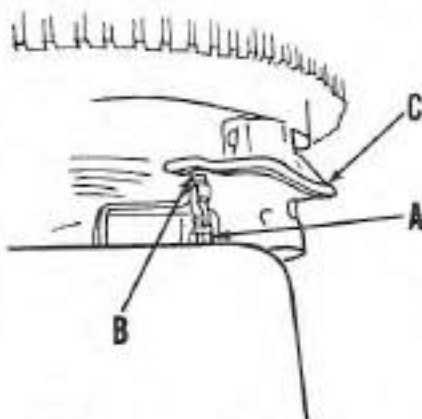
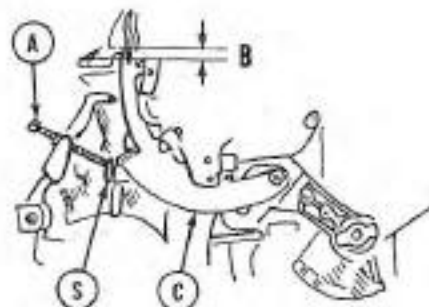
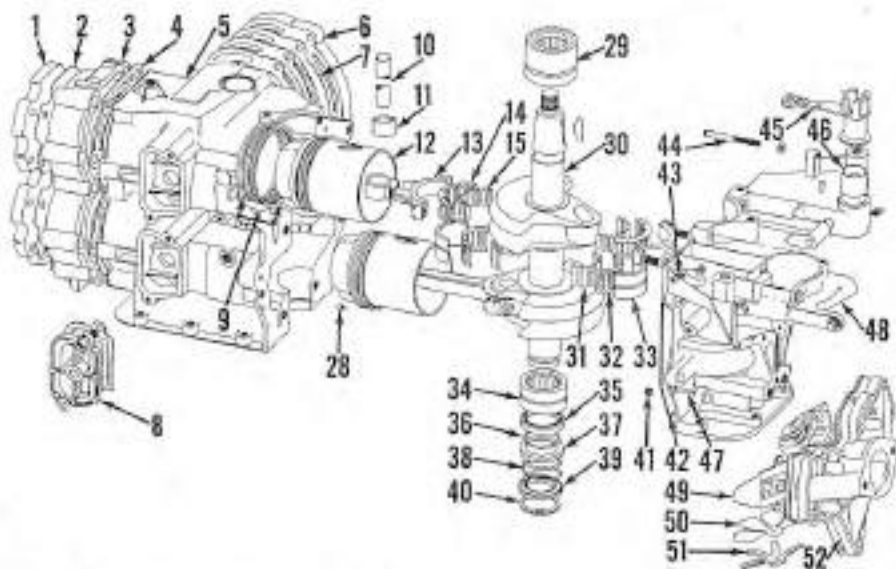

Fig. Mc79 — Throttle control linkage used on late models. Refer also to Fig. Mc78.
Fig. Mc78—Schematic view of speed control mechanism used on late models. Clearance (B) should be $\frac{1}{8}$ inch. See also Fig. Mc79.
Fig. Mc87 — Exploded view of power head used on late models. Early models are similar.
Models After 1960: Refer to Figs. Mc78 and Mc79. Move speed control grip to "Slow" position and shift lever to "Neutral" position. With idle stop (S—Fig. Mc78) contacting slow idle stop screw (A), adjust the screw until clearance (B) between neutral stop and limiting lever is $\frac{1}{8}$ inch. NOTE: Fig. Mc78 illustrates mechanism used on electric starting models. Manual start model adjustment is identical except for location of idle speed stop screw (See 44—Fig. Mc87).
With idle speed stop screw properly adjusted and stop (S—Fig. Mc78) contacting screw (A), turn the throttle control adjusting screw (A—Fig. Mc79) in or out until a clearance (B) of 0.020 exists between adjusting screw (A) and synchronizing cam (C).
Start the motor and turn the speed control grip until clearance (B—Fig. Mc78) is eliminated and neutral stop contacts the limiting lever, then make final adjustment of the throttle control adjustment screw (A—Fig. Mc79) until the recommended fast (neu-
The piston pin is a tight press fit in connecting rod and runs in renewable caged needle bearings in piston bosses. Be sure to center pin during assembly so that neither end can protrude beyond outer edge of piston. Install bearings (11—Fig. Mc87) so that inner edge is almost flush with inner edge of piston boss. Connecting rod is marked "TOP" for proper assembly. All bearing and friction surfaces should be lubricated when power head is assembled.